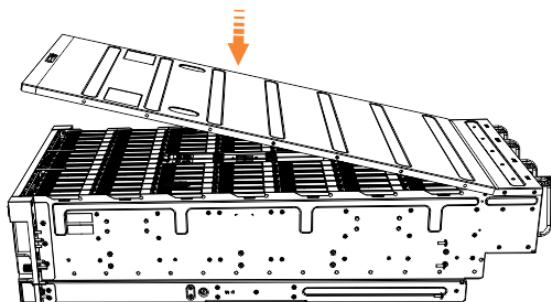

Figure 124. Aligning the top cover
6. Carefully lower the cover and ensure that it is aligned correctly with the back of the enclosure, as shown in Figure 124 on page 175.